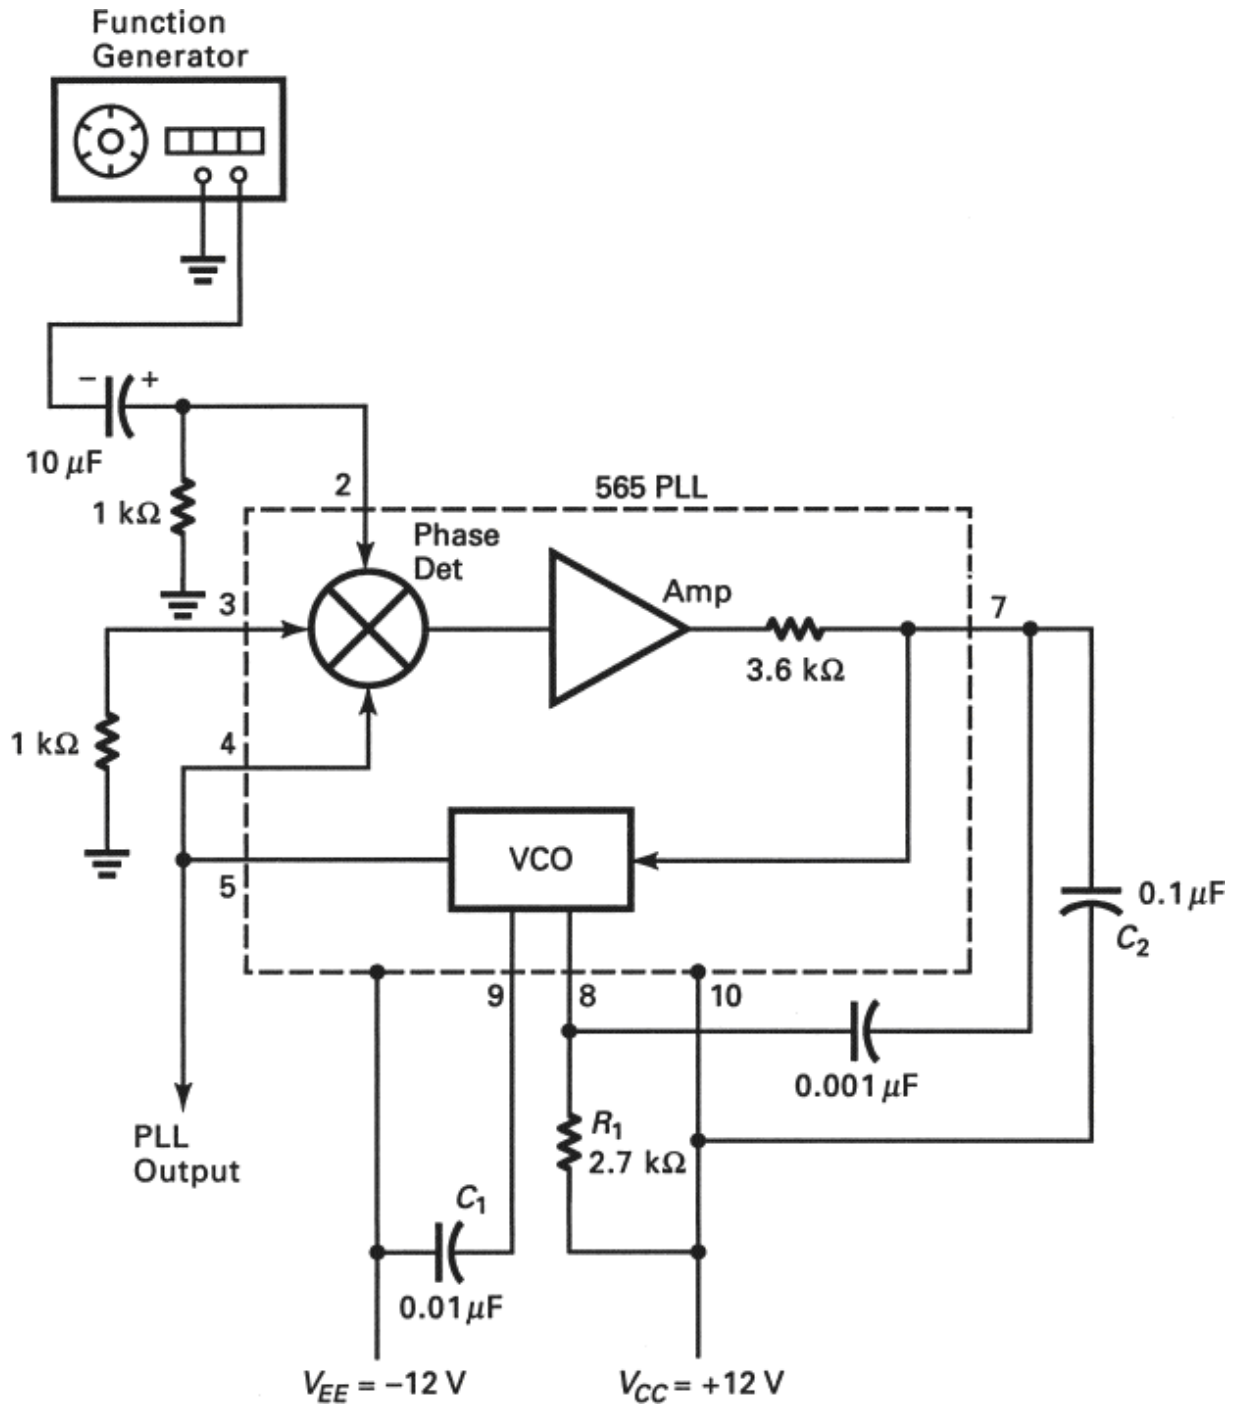

Fig. 6-2 Phase-locked loop circuit.
Refer to Fig. 6-2, which shows the 565 and the related components.
1. Connect the circuit shown in Fig. 6-2. An external function generator with variable-frequency capability is connected as the PLL input. Reduce the amplitude to zero for now.
2. Use the formula for the free-running frequency of the VCO, given earlier, to calculate that frequency by using the values of R_1 and C_1 in Fig. 6-2.
3. Apply power to the circuit shown in Fig. 6-2. By using a frequency counter, measure the output frequency of the VCO at pin 5 on the 565 IC. Observe the output signal with an oscilloscope.
11. By using the circuit shown in Fig. 6-2, you will now measure the lock range. First, however, set the function generator input frequency to the PLL free-running frequency to ensure initial lock.